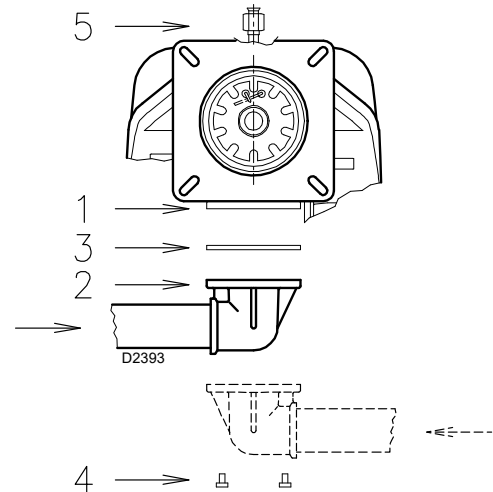

Fig. 19
- The gas train can enter the burner from the right or left side, depending on which is the most convenient, see Fig. 19.
- The gas train must be connected to the gas attachment 1)(Fig. 19) with the flange 2), the gasket 3) and the screws 4) supplied with the burner.
- The pilot gas train must be connected to the gas attachment 5)(Fig. 19) and can enter the burner from the right or left side.